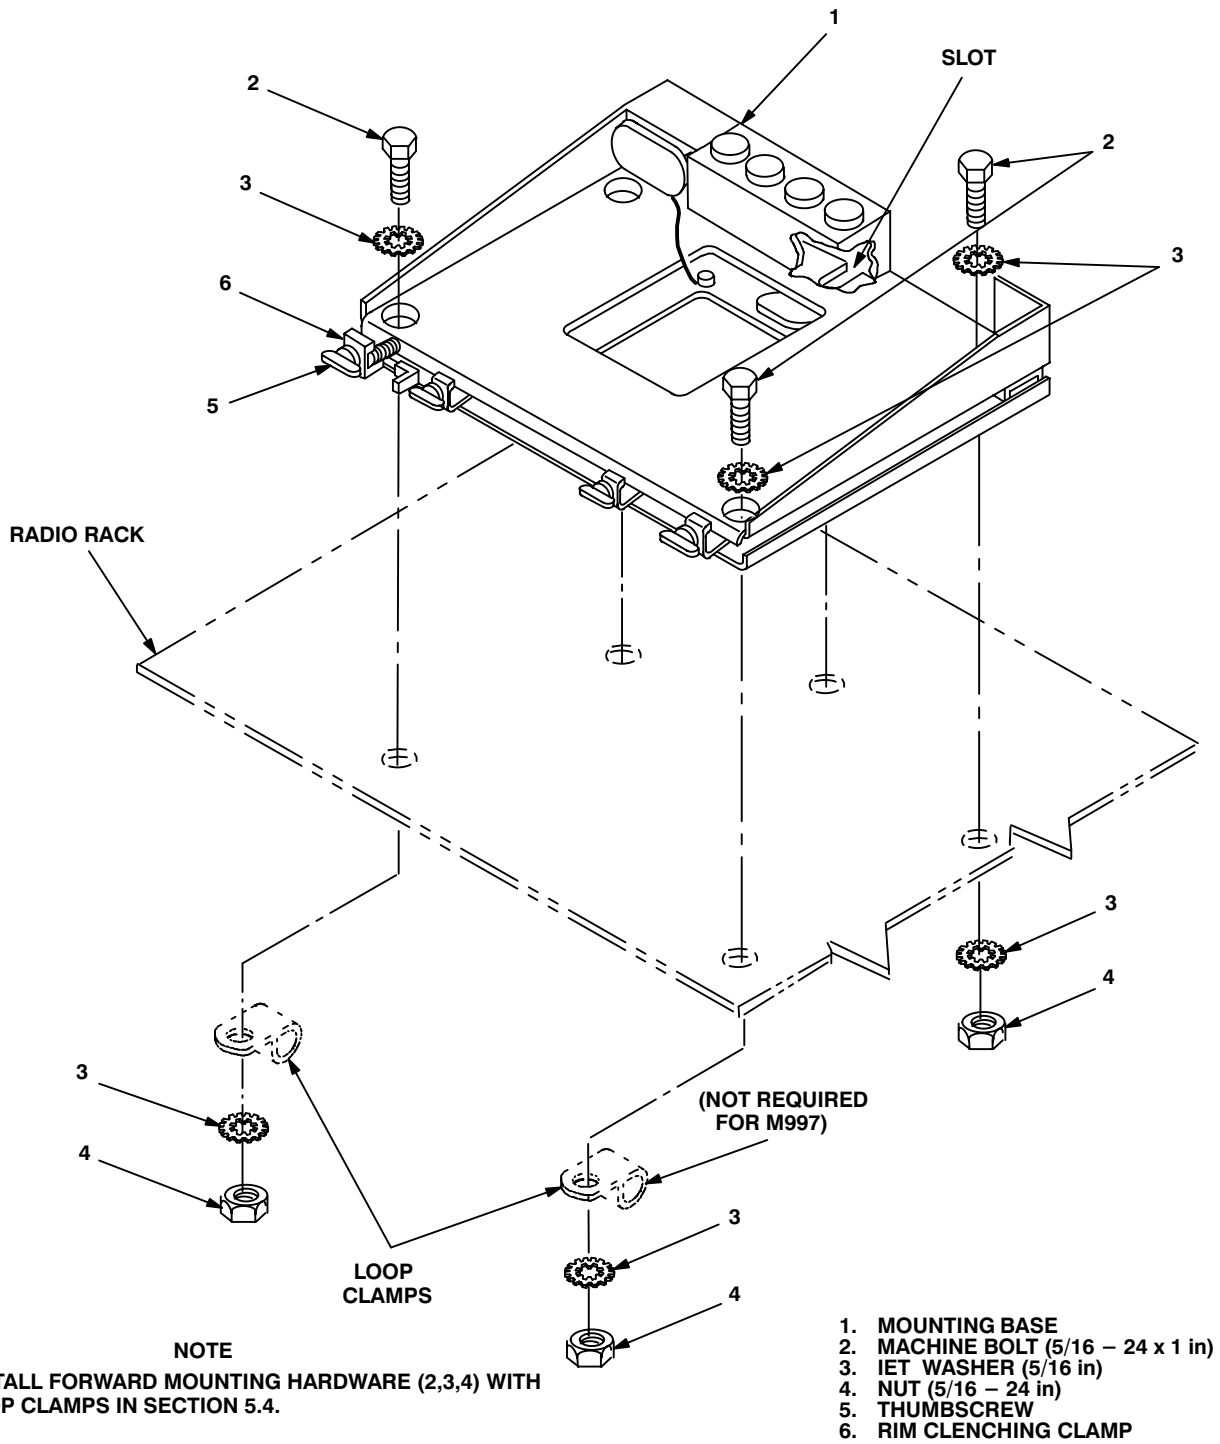

Figure 5-5. Mounting Base Installation
**5.3 Installation of Mounting Base, Electrical Equipment MT-6352/VRC (mounting base).** Remove and retain attaching bag of 5/16 in mounting hardware for installation. To insure good electrical grounding, any rust, corrosion or paint around mounting holes in radio shelf should be removed before installing the mounting base. See figure 5-5 and perform the following steps.